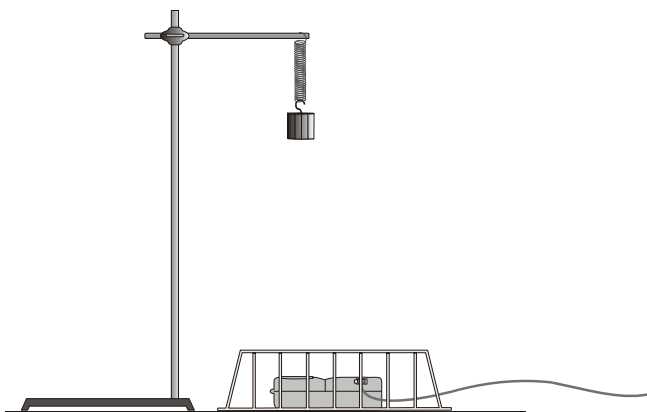

Figure 1
1. Attach the spring to a horizontal rod connected to the ring stand and hang the mass from the spring as shown in Figure 1. Securely fasten the 200-g mass to the spring and the spring to the rod, using twist ties so the mass cannot fall.